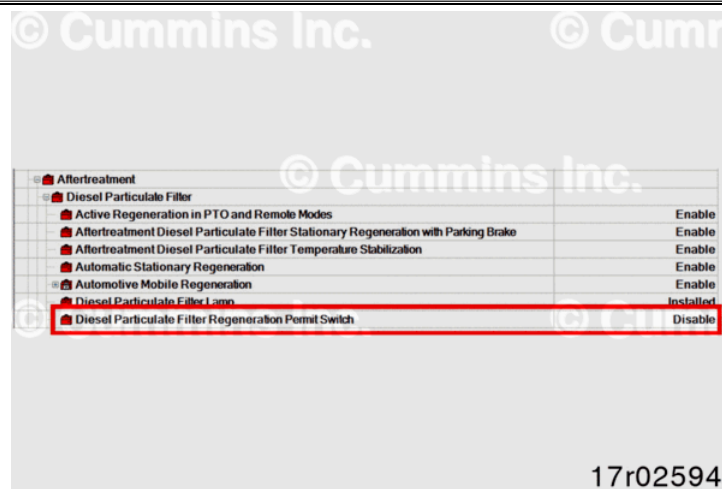

Figure 3, INSITE™ Electronic Service Tool Features and Parameter Trims Aftertreatment
- 5ai. Go to features and parameters and expand Aftertreatment Diesel Particulate Filter and disable Diesel Particulate Filter Regeneration Permit Switch if the trim is enabled. Reference Figure 3 for the correct setting.